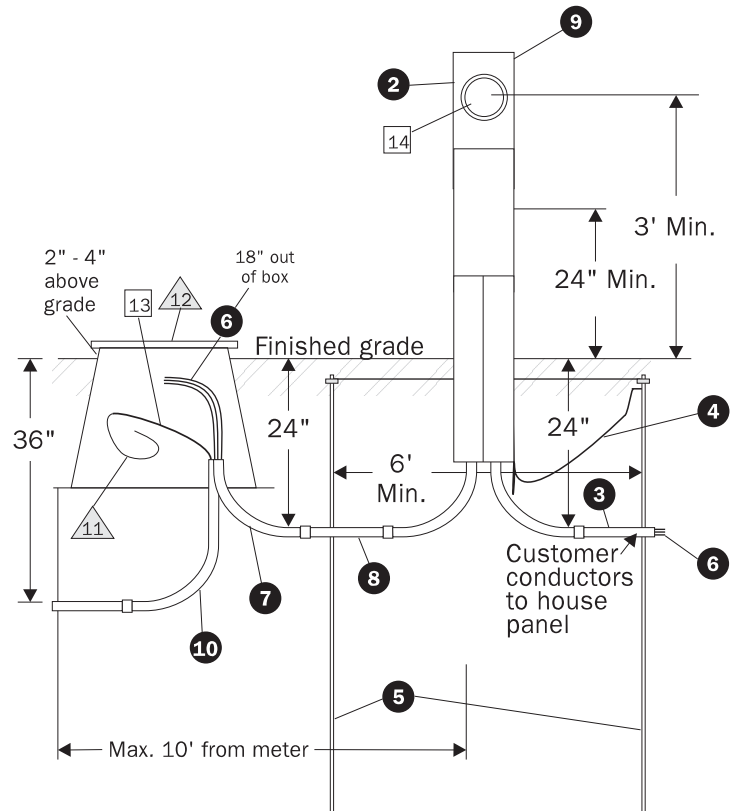

Figure 22.
2. **Factory built-** a pedestal that you buy. See Figure 22.